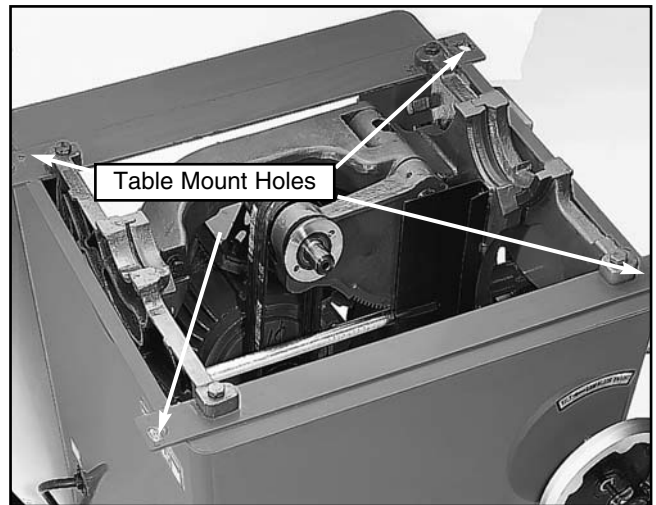

Figure 23. Table mounting bolt holes.
6. If the difference is greater than 0.004", loosen the four table mounting bolts as seen in **Figure 23** and adjust the table slightly. Repeat **Steps 1-5** until satisfactory. Do not forget to tighten the table mounting bolts when finished.
9. If the blade was parallel to the miter slot at 90° but not at 45°, the table will need to be shimmed with metal shim stock. The shims are placed under the table over each of the four table mounting bolts as shown in **Figure 23**.